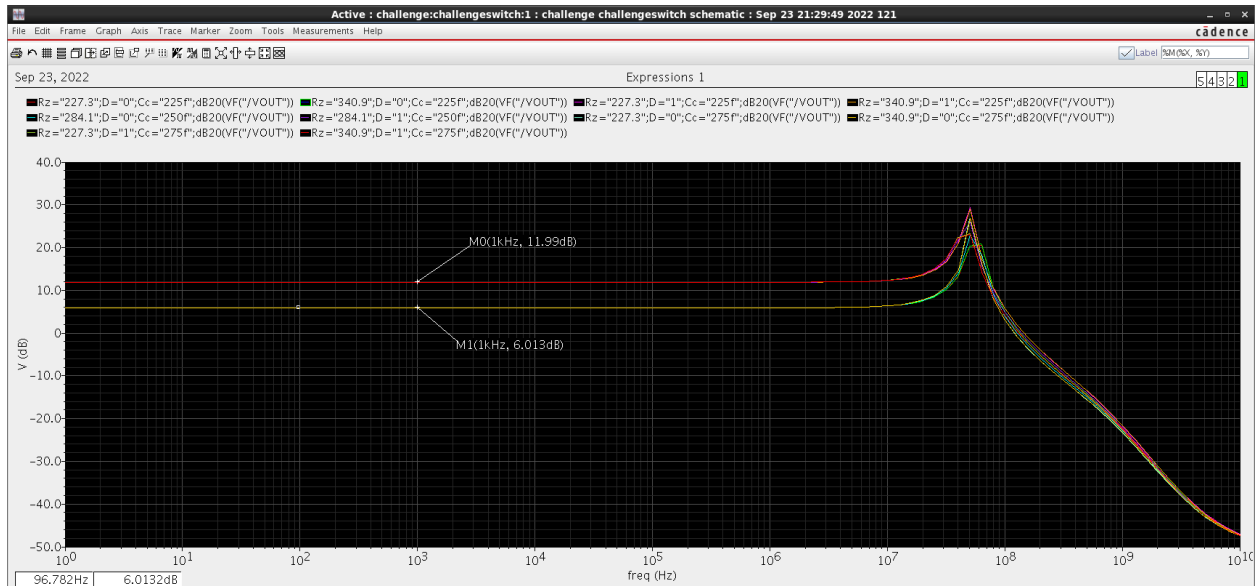

Figure 3.3
-I plotted closed loop gain (in dB) vs frequency as shown in figures 3.3